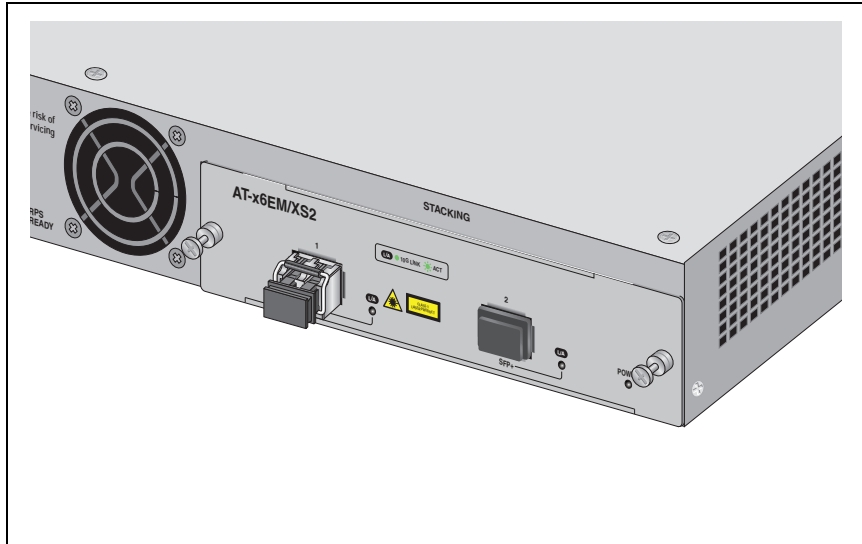

Figure 66. Positioning the SFP+ Transceiver Locking Handle
5. Verify that the handle on the SFP+ transceiver is in the upright position, as shown in Figure 66, to prevent inadvertently removing the transceiver.